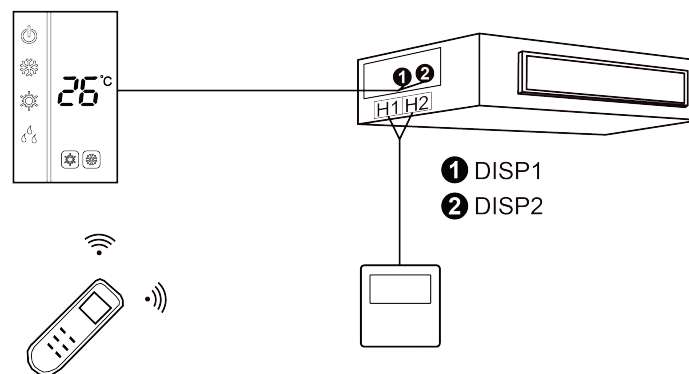

Fig.5.4.3
3) Wired controller and receiving light board can be installed at the same time. When operating through a remote controller, both wired controller and the receiving light board can receive the signals, as shown in Fig.5.4.3.